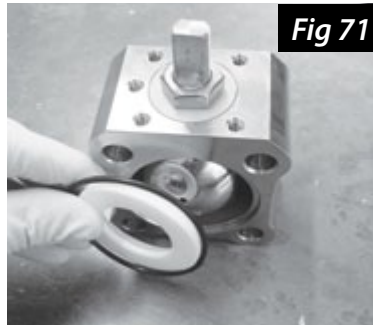

Fig 71
7. Remove and discard the Teflon® seats and body seal o-rings (Fig 71).